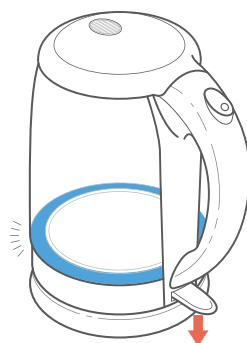

Figure 1.3
5. Press the **On/Off Switch**. The blue indicator light will turn on. *[Figure 1.3]*